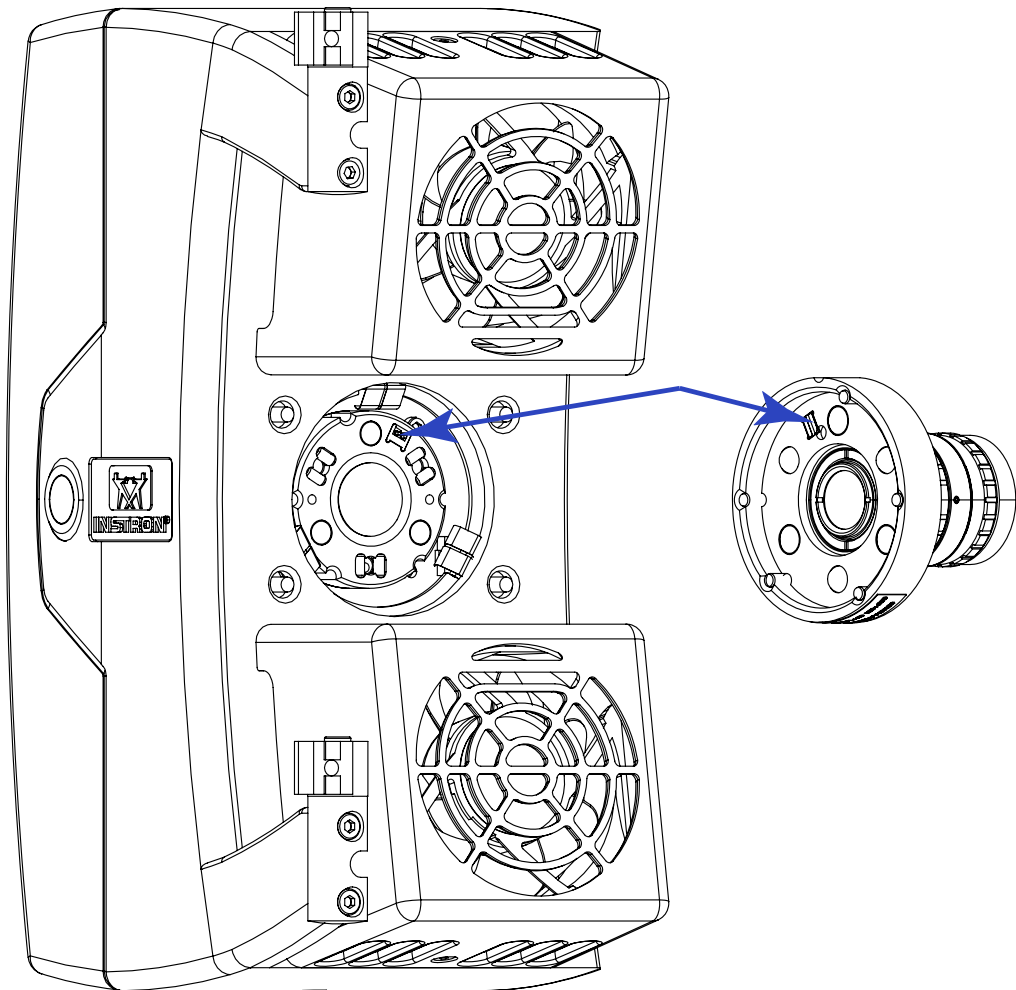

Figure 23. Lens mount and lens
3. To install a new lens, carefully align it so that the connector that allows self-identification on the lens will align with the equivalent connector in the lens mount on the instrument, as shown by the arrows lines in Figure 23 on page 54.